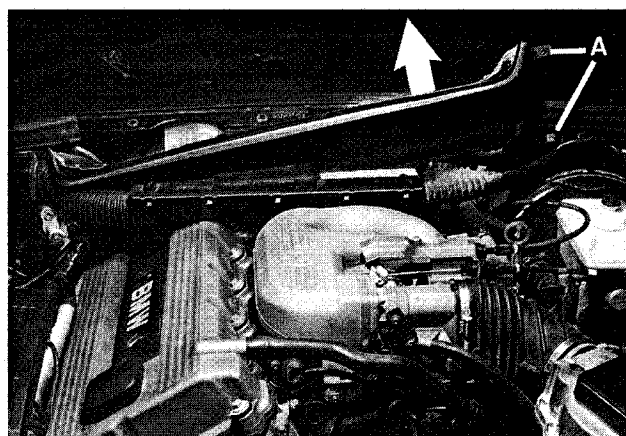

Fig. 8. Remove screw at A and pull plenum housing upward.
7. On driver's side of air plenum, push aside wiring harness and remove screw retaining plenum. Pull plenum up and remove from engine compartment. See Fig. 8.